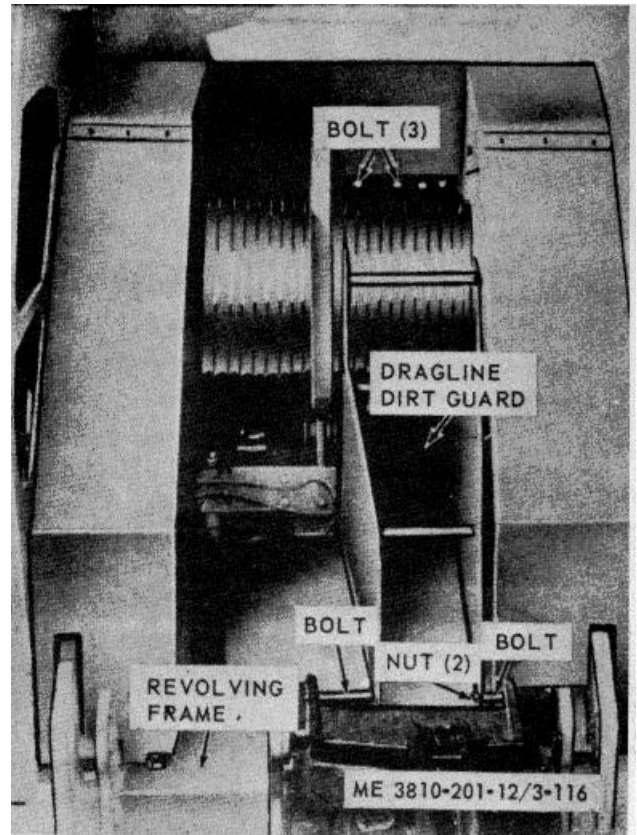

Figure 3-116. Dragline dirt guard, removal and installation.
b. Dragline Dirt Guard, Removal and Installation. Refer to figure 3-116 and remove dragline dirt guard. Install in reverse order.